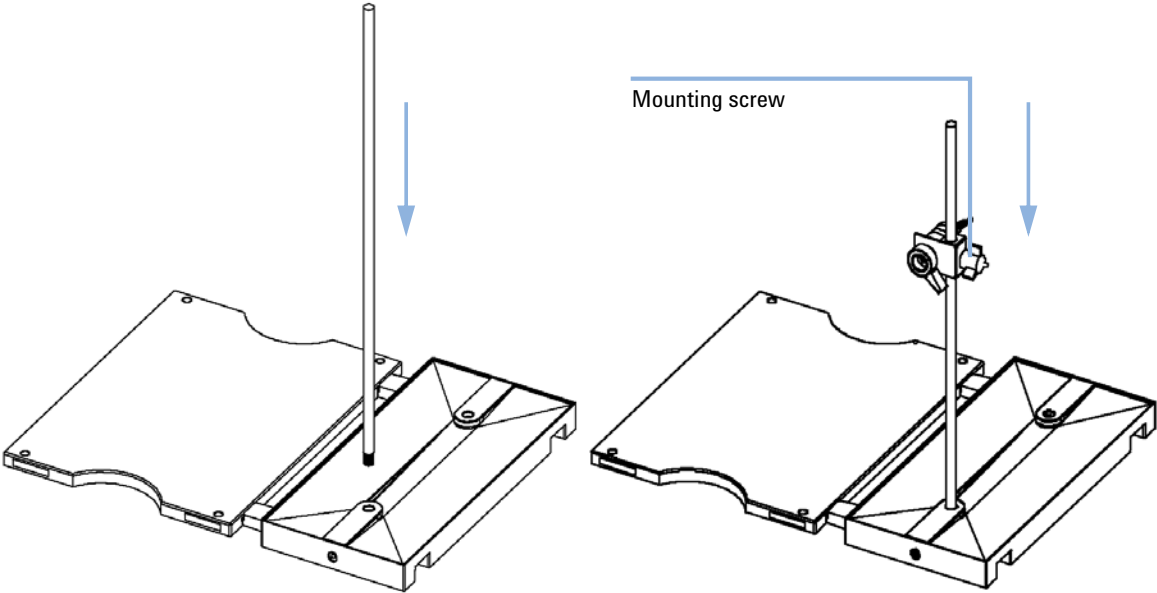

Figure 3 Installing the Mounting Pole and Manual Injector
- 4 Slide the manual injector onto the mounting pole (see Figure 3 on page 11). Tighten the mounting screw.